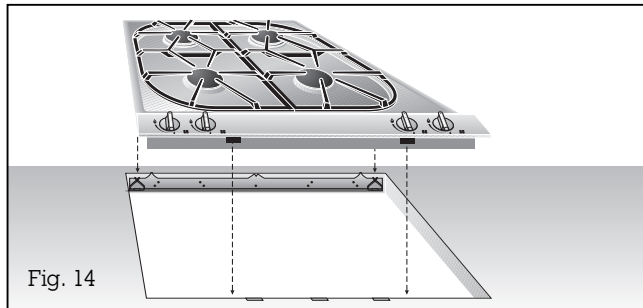

Fig. 14
- **Lower the appliance into the worktop.** Make sure that the engaging lugs on the appliance lie exactly on the clamping springs. Press the appliance firmly into the worktop. The engaging lugs on the appliance “snap” into the clamping springs (Fig. 14).